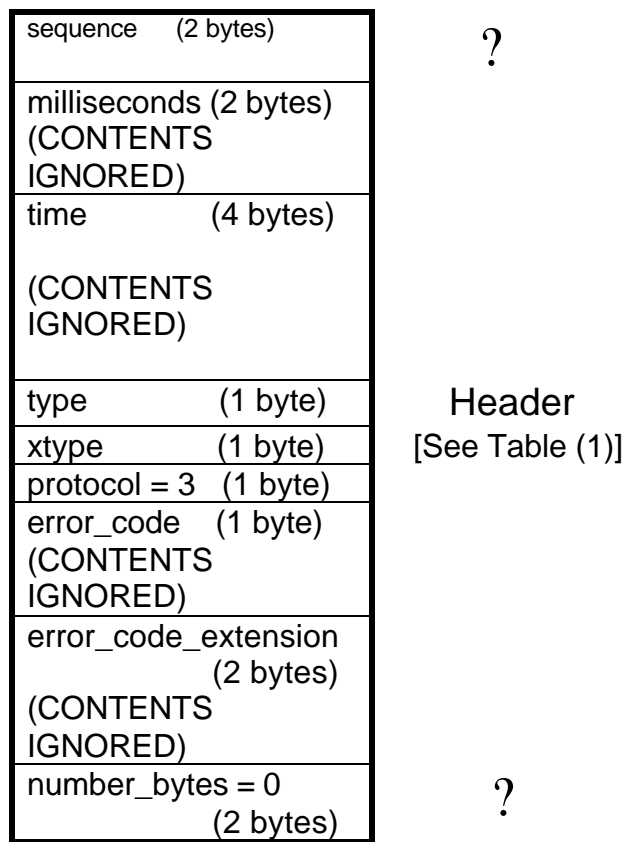

Figure 9. BirdNet Simple Command/Response Format
For the following descriptions, Figure 9 is an example of what the command response header that is used for each command should look like.
#### **MSG\_WAKE\_UP** (See Figure 9)
#### **RSP\_WAKE\_UP** (See Figure 9)
**MSG\_SHUT\_DOWN** (See Figure 9)
**RSP\_SHUT\_DOWN** (See Figure 9)
**MSG\_SINGLE\_SHOT** (See Figure 9)
**MSG\_RUN\_CONTINUOUS** (See Figure 9)
**MSG\_STOP\_DATA** (See Figure 9)
**MSG\_GET\_STATUS** (See Figure 9)